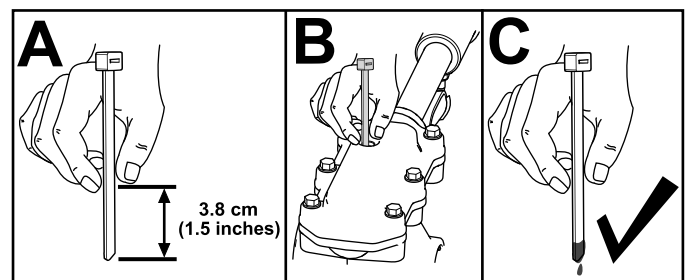

**Figure 38**
2. Clean the area around the pipe plug and remove the pipe plug from the gearbox (Figure 38).